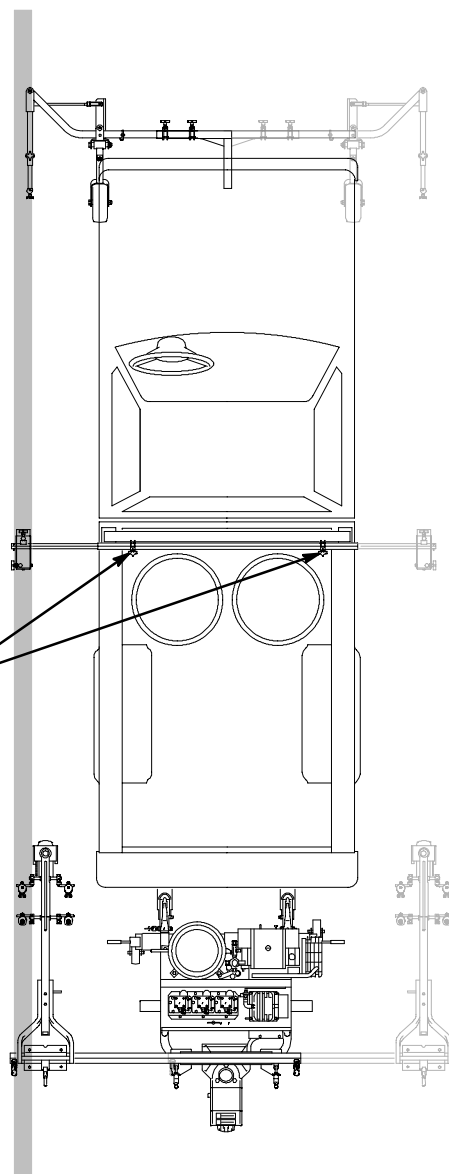

Fig. 9
NOTE: Straight camera extension arm (64) can be used if camera angle is adequate from height of horizontal support bracket (51). See Fig. 9 on page 8 for correct camera/pointer alignment.
1. See Fig. 9. Loosen clamps (56) securing video camera bracket, and slide camera extension arm out until camera is centered directly over reference line. Tighten clamps.
1. Check video monitor screen for proper pointer alignment. When pointer and camera are properly aligned, pointer is vertical and visually splits head of pointer arm pivot bolt (13), as shown in **Correct Pointer Alignment** photo in Fig. 9.